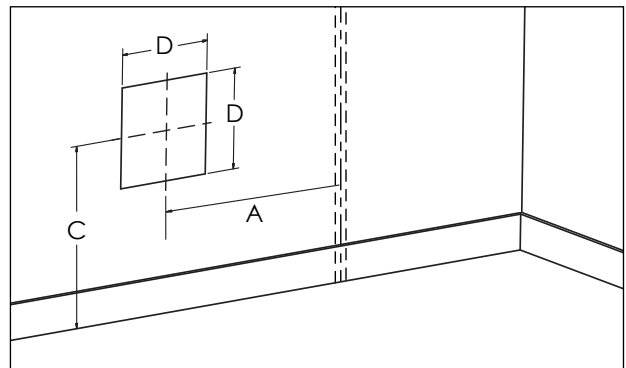

Figure 16
- Taking into account the minimum clearances mentioned in table 2, locate the closest wall stud (which will serve to hold the appliance) and mark the square hole center at a distance "A", (if the wall stud is at the right), or "B", (if the stud is at the left)(see table 2 and Figures 16 and 17).